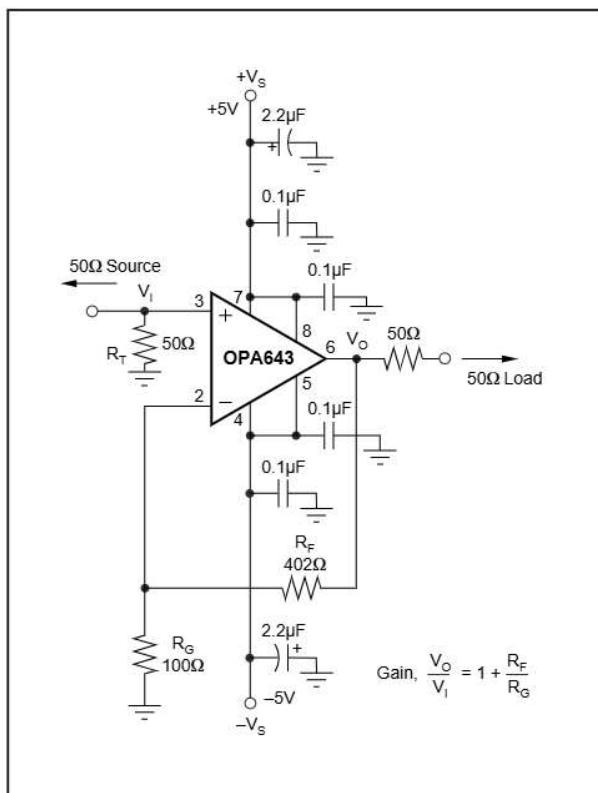

FIGURE 1. Gain of +5, High Frequency Application and Characterization Circuit (P or U Package).
The OPA643's combination of speed and dynamic range is easily achieved in a wide variety of application circuits, providing that simple guidelines common to all high speed amplifiers are observed. For example, good power supply decoupling, as shown in Figure 1, is essential to achieve the lowest possible harmonic distortion and smooth frequency response. Careful PC board layout and component selection will maximize the performance of the OPA643 in all applications, as discussed in the remaining sections of this data sheet.
Figure 1 shows the gain of +5 configuration used as the basis for most of the Typical Performance Curves. Most of the curves were characterized using signal sources with  $50\Omega$  driving impedance, and with measurement equipment presenting  $50\Omega$  load impedance. In Figure 1, the  $50\Omega$  shunt resistor at the  $V_I$  terminal matches the source impedance of the test generator, while the  $50\Omega$  series resistor at the  $V_O$  terminal provides a matching resistor for the measurement equipment load. Generally, data sheet specifications refer to the voltage swing at the output pin ( $V_O$  in Figure 1). The total  $100\Omega$  load from the series and shunt matching resistors, combined with the  $502\Omega$  total feedback network load, presents the OPA643 with an effective output load of approximately  $83\Omega$ .
To deliver the lowest possible distortion using the 8-pin SO-8 or DIP package, additional  $0.1\mu F$  power supply decoupling capacitors on pins 5 and 8 are required. These are shown in Figure 1. Although pins 5 and 8 are internally connected to pins 4 and 7 respectively (the standard supply pins for 8-pin op amps), the additional capacitors help to decouple the package lead inductances and decrease the second-harmonic distortion for a 5MHz fundamental by approximately 4dB. The much shorter bond wires and supply leads of the SOT23-5 package give the best distortion performance while requiring only two power supply connections.
Since the OPA643 is a voltage feedback op amp, a wide range of resistor values may be used for the feedback and gain setting resistors ( $R_F$  and  $R_G$  in Figure 1). The primary limits to these values are set by dynamic range (noise and distortion) and parasitic capacitive considerations. Usually, the feedback resistor value should be between  $200\Omega$  and  $1\text{k}\Omega$ . Below  $200\Omega$ , the feedback network will present additional output loading which can degrade the harmonic distortion performance of the OPA643. Above  $1\text{k}\Omega$ , the typical parasitic capacitance (approximately  $0.2\text{pF}$ ) across the feedback resistor may cause unintentional band-limiting in the amplifier response.
A good rule of thumb is to target the parallel combination of  $R_F$  and  $R_G$  (Figure 1) to be less than about  $200\Omega$ . The combined impedance  $R_F \parallel R_G$  interacts with the inverting input capacitance, placing an additional pole in the feedback network and thus a zero in the forward response. Assuming a  $3\text{pF}$  total parasitic on the inverting node, holding  $R_F \parallel R_G < 200\Omega$  will keep this pole above 250MHz. By itself, this constraint implies that the feedback resistor  $R_F$  can increase to several  $\text{k}\Omega$  at high gains. This is acceptable as long as the pole formed by  $R_F$  and any parasitic capacitance appearing in parallel with it is kept out of the frequency range of interest. The exception to this is in wideband transimpedance applications as described earlier. There, a feedback pole is used to compensate for the zero formed by the input capacitance and the feedback resistor.
Generally, until the fundamental signal reaches very high frequencies or powers, the second harmonic will dominate the distortion with negligible third harmonic component. Focusing then on the second harmonic, increasing the load impedance improves distortion directly. Remember that the total load includes the feedback network—in the non-inverting configuration this is sum of  $R_F + R_G$ , while in the inverting configuration it is only  $R_F$  (Figure 1). Larger output voltage swings lead directly to increased harmonic distortion. A 6dB increase in output voltage swing will generally increase the second harmonic by 12dB and the third harmonic by 18dB. Higher signal gain settings will also increase the second harmonic distortion. A 6dB increase in voltage gain will raise the second and third harmonics by
Evaluating these two equations for the OPA643 component values shown in Figure 1 will give a total output spot noise voltage of  $13.3\text{nV}/\sqrt{\text{Hz}}$  and a total equivalent input spot noise voltage of  $2.7\text{nV}/\sqrt{\text{Hz}}$ .
Narrowband communications systems are more commonly concerned with the Noise Figure (NF) for the amplifier. The total input referred voltage noise expression (Equation 2 above), may be used to calculate the noise figure. Equation 3 shows the noise figure expression using the  $E_N$  of Equation 2 for the non-inverting configuration where the input termination resistor  $R_T$  has been set to match the  $50\Omega$  source impedance (as shown in Figure 1).
Evaluating Equation 3 for the circuit of Figure 1 gives a Noise Figure = 15.9dB. Input transformer coupling can be used to reduce this noise figure. A broadband pulse transformer can provide both a noiseless voltage gain and a more optimum source impedance to minimize the noise figure. Figure 9 shows an example built from the circuit of Figure 1, in which the transformer turns ratio has been set to the closest integer for minimum noise figure. This optimum turns ratio is calculated by:
The OPA643 provides excellent DC signal accuracy due to the combination of high open-loop gain, high common-mode rejection, high power supply rejection, low input offset voltage and low bias current offset errors. The high grade (B) version of any package type provides less than 1.5mV input offset voltage. To take full advantage of this low input offset voltage, careful attention to input bias current cancellation is also required. The high speed input stage for the OPA643 has a relatively high input bias current (19μA typical into each input pin) but with a very close match between the two input currents—typically 100nA input offset current. The total output offset voltage may be considerably reduced by matching the source resistances which appear at the two inputs. For example, one way to include bias current cancellation in the circuit of Figure 1 would be to insert a 55Ω series resistor into the non-inverting input after the 50Ω terminating resistor,  $R_T$ . When the 50Ω source resistor is DC coupled, this will increase the source resistance for the non-inverting input bias current to 80Ω. Since this is now equal to the resistance appearing at inverting input ( $R_F \parallel R_G$ ), the circuit will cancel the gains for the bias currents to the output, leaving only the offset current times the feedback resistor as a residual DC error term at the output. Using a 402Ω feedback resistor, this output error will now be less than  $3\mu\text{A} \cdot 402\Omega = 1.2\text{mV}$  over the full temperature range.
As a worst case example, compute the maximum  $T_J$  using an OPA643N (SOT23-5 package) in the circuit of Figure 1 operating at the maximum specified ambient temperature of  $+85^\circ\text{C}$ .  $P_D = 10\text{V} \cdot 26\text{mA} + 5^2/(4 \cdot (100\Omega \parallel 502\Omega)) = 335\text{mW}$ . Maximum  $T_J = +85^\circ\text{C} + (0.335\Omega \cdot 150^\circ\text{C/W}) = 135^\circ\text{C}$ .